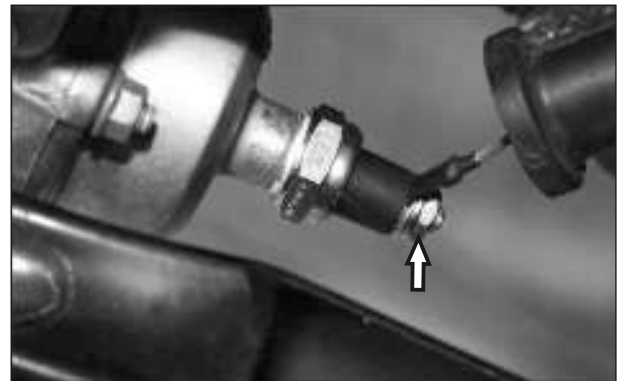

Fig. 2.18
- Loosen and remove Hex nut M6 along with spring washer from the switch. (Fig. 2.18)